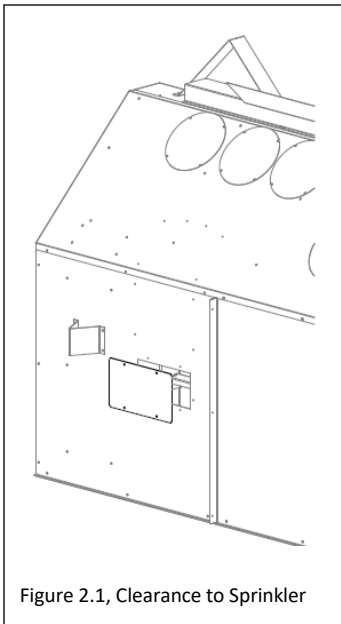

Figure 2.1, Clearance to Sprinkler
1. The outer shell of your fireplace will have cover plate(s) for use with heat transfer kits. Reference the fireplace manual for the location of your heat transfer kit cover plates. See Figure 2.1